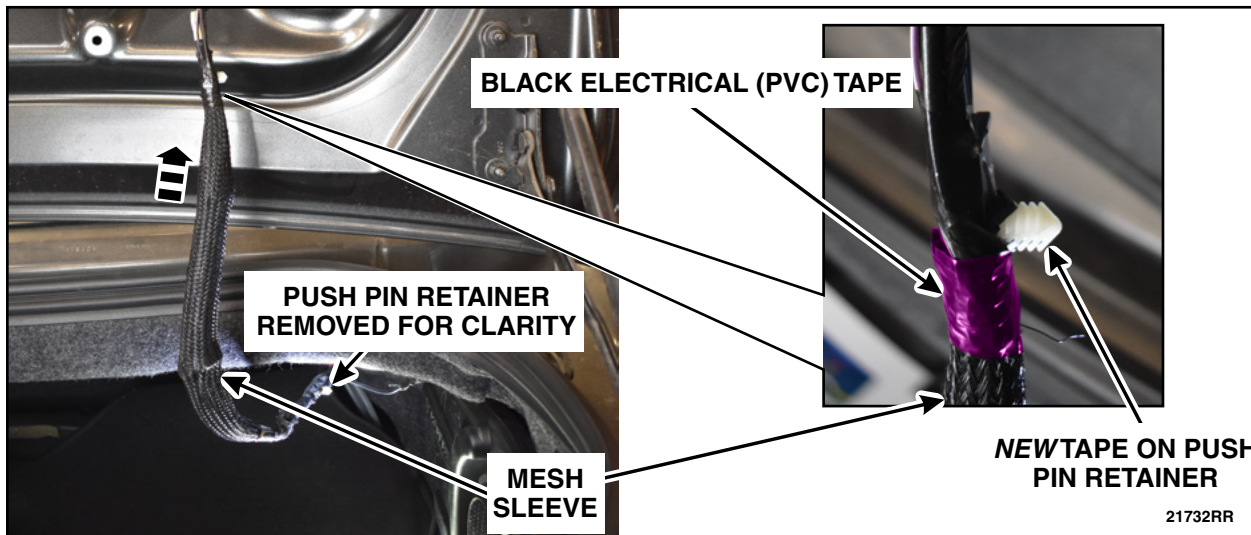

FIGURE 51
70. Position the mesh sleeve to the new tape on push pin retainer and secure using some KT173510 or equivalent black electrical (PVC) tape. See Figure 51.